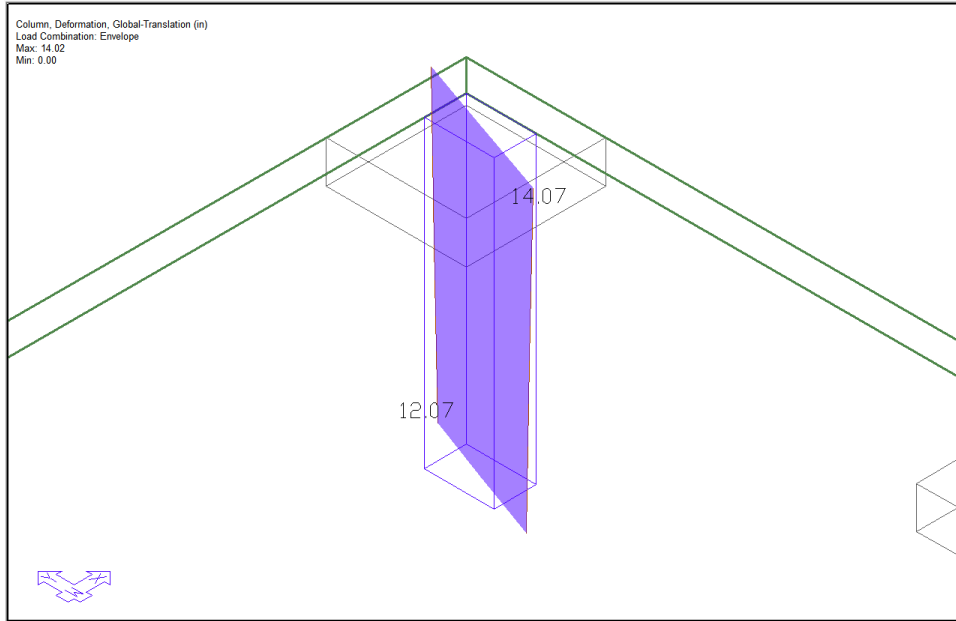

FIGURE 14-7
- We will check the drift at one column location at the upper-far right corner of the slab. The check will consider the envelope of global displacement values. At this column, the global displacement at the top node (Roof Level) is 14.07" and at the bottom node (Level 6) is 12.07", as shown in **FIGURE 14-7**. Taking the difference, we have drift at this location of $14.07 - 12.07 = 2.00"$. The drift ratio is therefore $2.00" / 12 \times 12 = 1.38\%$. If we compare this to the allowable drift of 0.5% we can see the drift at this location is not acceptable.